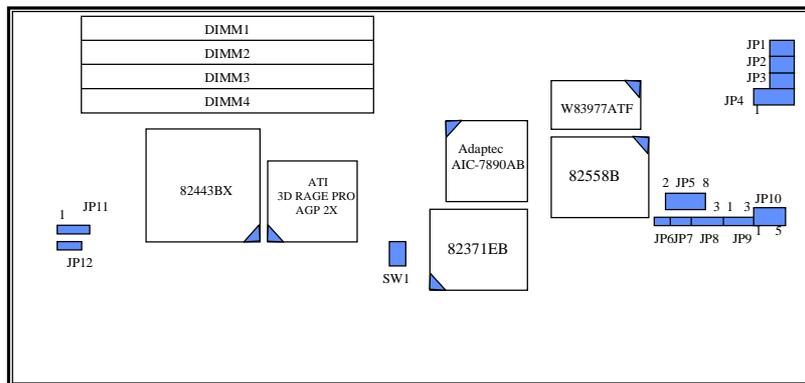

Figure 2-1 ROBO-638 Jumper Locations
In general, jumpers on the single board computer are used to select options for certain features. Some of the jumpers are designed to be user-configurable, allowing for system enhancement. The others are for testing purpose only and should not be altered. To select any option, cover the jumper cap over (Short) or remove (NC) it from the jumper pins according to the following instructions. Here NC stands for “Not Connected”. (Please refer to Figure 2-1 for jumper positions)